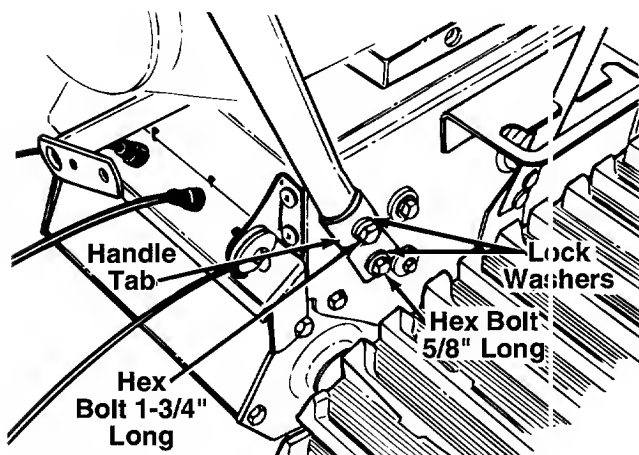

FIGURE 1.
- Place right handle in position with flat side against the snow thrower. Secure bottom holes in handle to snow thrower using hex bolts 5/8" long and lock washers. See figure 1. Do not tighten at this time.